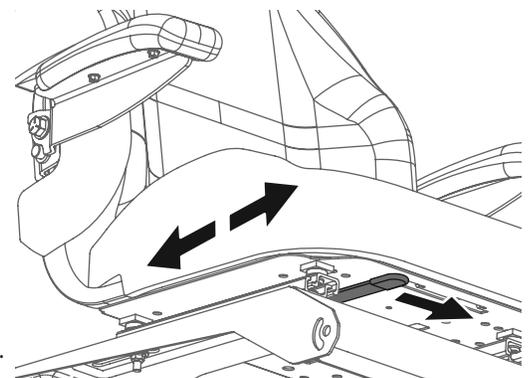

Figure 15
3. Release the adjustment lever. Ensure seat is locked into position before operation. See Figure 15.